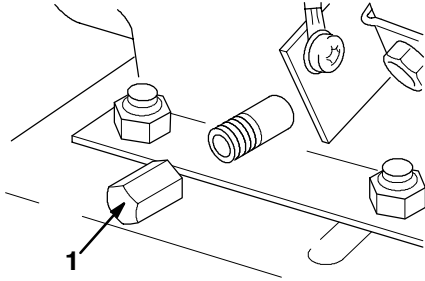

Figure 19
4. Clean the area around the oil drain plug (Fig. 19).
5. Slide the oil drain pan below the drain extension and remove the oil drain plug (Fig. 19).